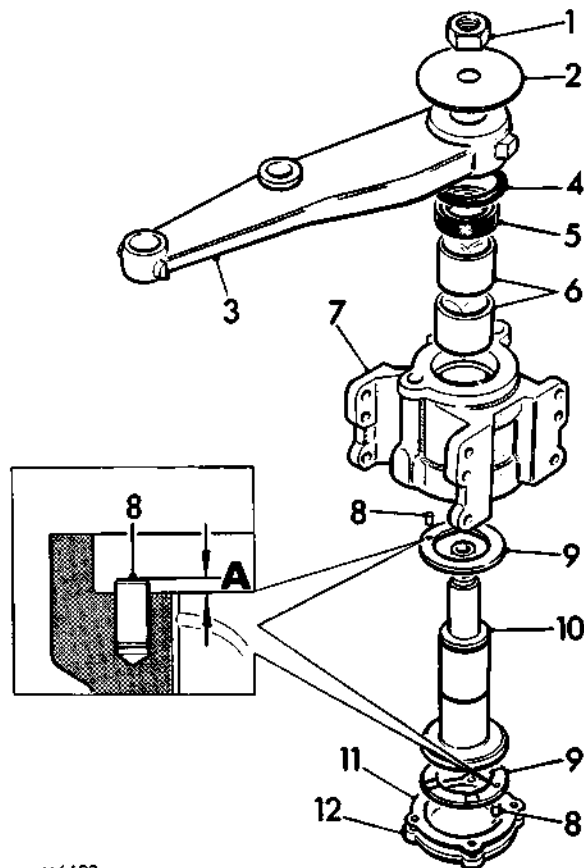

FIG. 6. EXPLODED VIEW OF RELAY LEVER PIVOT BRACKET
**To Dismantle (Fig. 6)**
2. Insert lower thrust washer, ensuring the oil grooves are uppermost and the hole in the thrust washer locates on the dowel; see Fig. 6 for location and dowel protrusion limit.